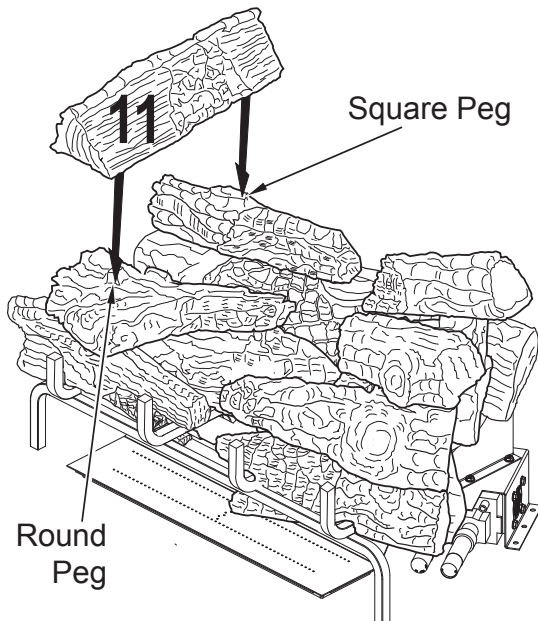

Figure 48 - Installing Log # 11
11. Place the left top log (#11) on top of the left back top log (#5) and left top forked log (#6) as shown in **Figure 48, Page 23**. Match the round peg on the top of the left top forked log (#6) with the round hole on the bottom of the top left log (#11) and rectangular peg on the top of the left back top log (#5) with the rectangular hole on the bottom of the top left log (#11).